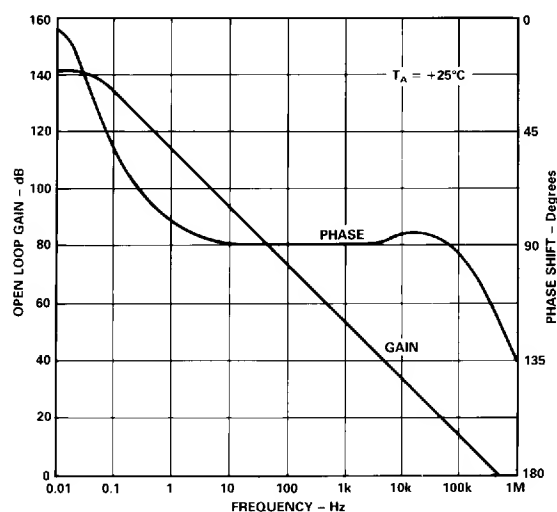

Figure 28. Open Loop Gain and Phase Response for the Uncommitted Input Op Amp of the AD208
**Compensating the Uncommitted Input Op Amp.** The open loop gain and phase versus frequency for the uncommitted input op amp is given in Figure 28. These curves can be used to determine the appropriate values for the feedback resistor and compensation capacitor in order to ensure frequency stability when reactive or nonlinear components are used in conjunction with the uncommitted input op amp.